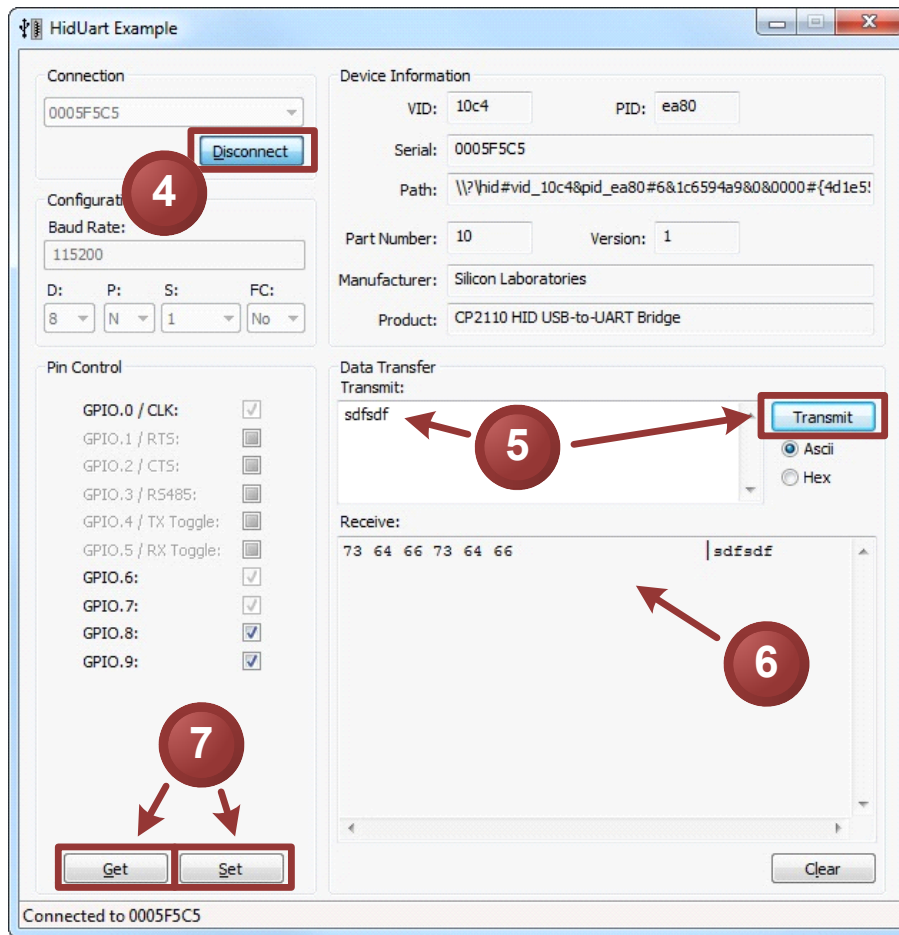

Figure 3. HIDUart Example Application after Connection
7. The HIDUart example automatically recognizes how the GPIO pins are configured and enables/disables the ability to change and read the pin. The default configuration is shown in Figure 3. Use the **Get** and **Set** buttons to read and write the GPIO pins' latch values. For GPIO pins that are configured as outputs, setting the pin to logic low 0 will turn on the corresponding LED on the CP2110 evaluation board.